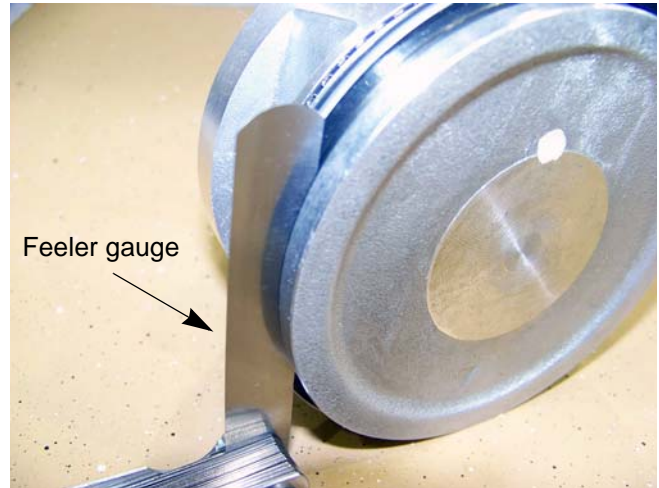

Figure 10.12
7. Measure the gap between the ring and the ring land using a feeler gauge and compare the measurement to the chart at the end of this chapter. See Figure 10.12.